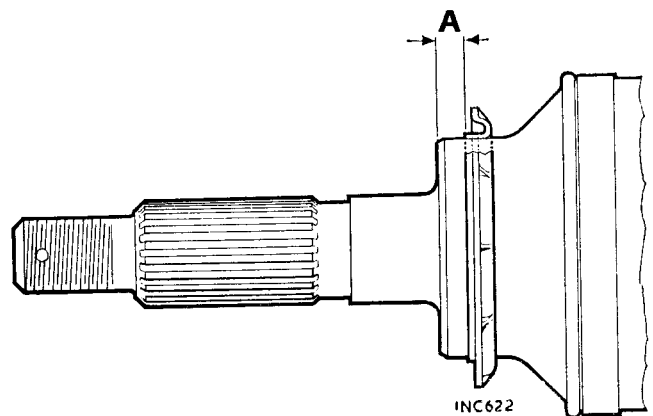

Fig. K.5
- d. Use Service tool 18G 134 and adaptor 18G 134 DO to fit both new seals to the hub. Ensure that the water shield is fitted to the drive shaft as shown in Fig. K.5.